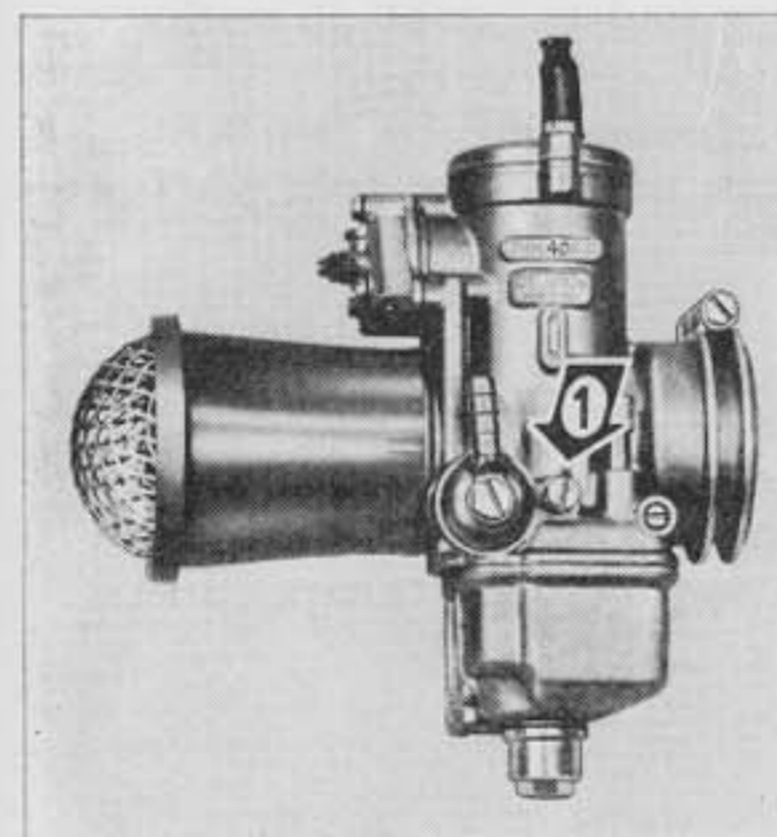

Fig. 3
- 1) screw throttle stop screw "1" until you get a rather high tickover (see fig. 3).